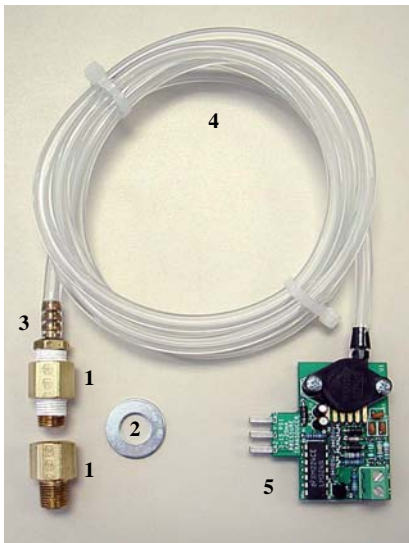

Figure 1. AI-010 Option Kit
4. Unpack and verify the contents of the option kit (See Figure 1).
5. Unpack and verify the contents of the option kit. See Figure 1.